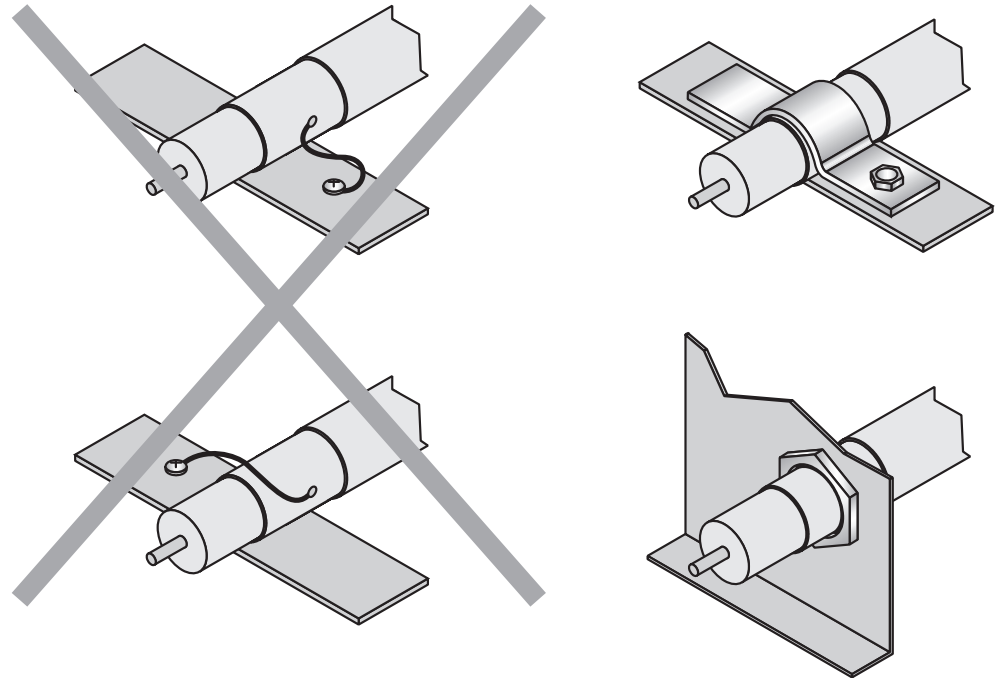

Figure 6: Make an extensive and low-impedance ground connection of the cable shield in the control cabinet.
- The cable shield in the control cabinet must be connected to a large area of the signal ground, see figure 6.